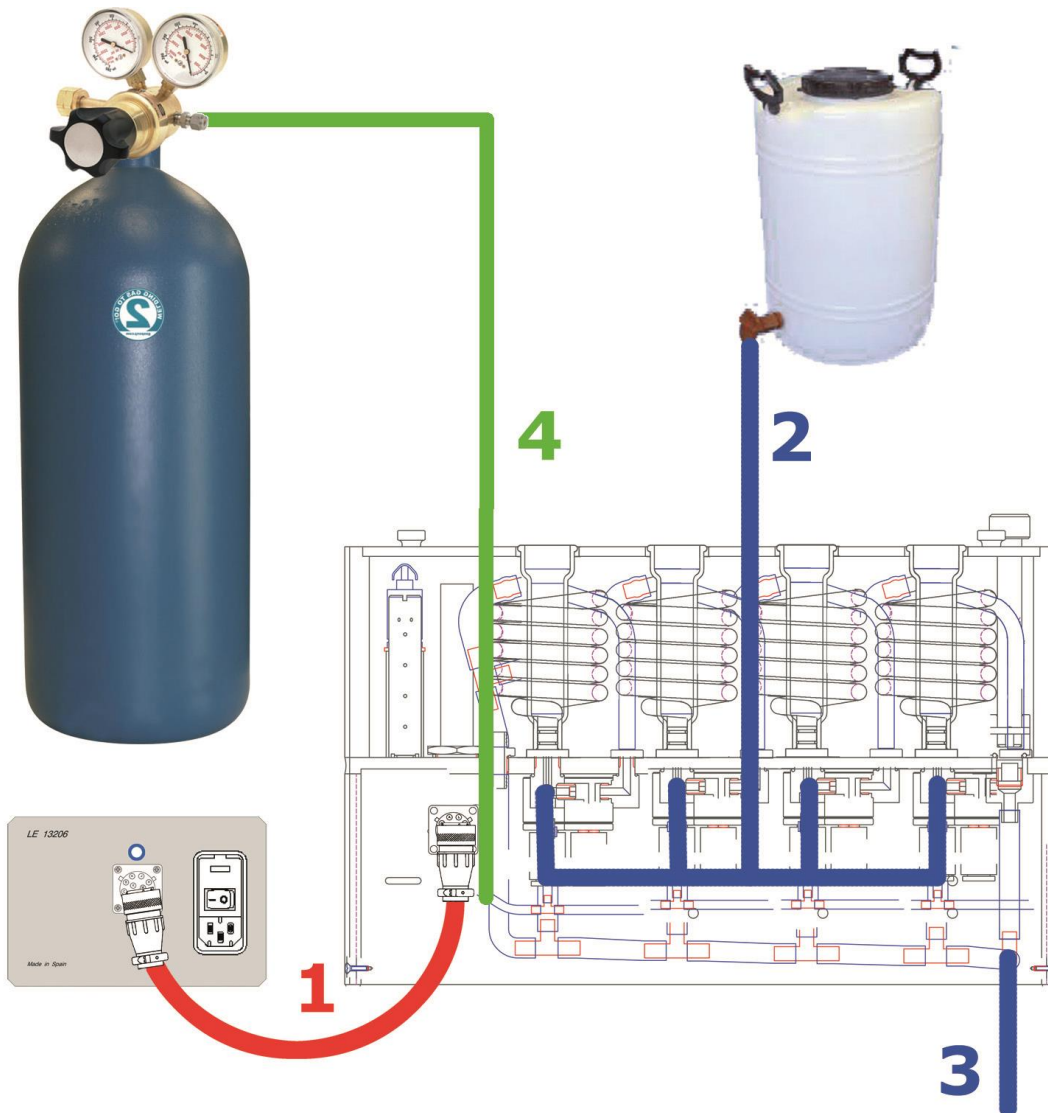

Figure 15. Equipment connection.
The silicone tubes are numbered as 2 and 3. See Figure 15.
- 1) Connect the gas inflow connector on the rear panel of the organ bath to a gas source (the silicone tube is labelled as 4, see Figure 15). A minimum pressure source of 0.1 bars must be used.